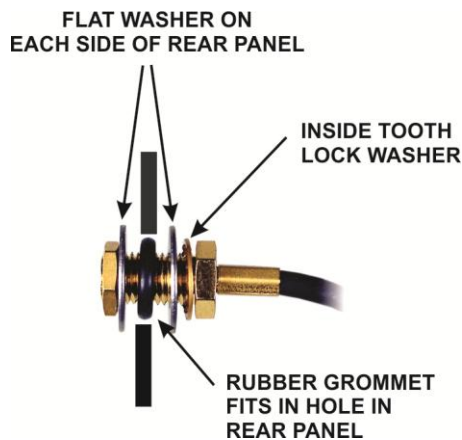
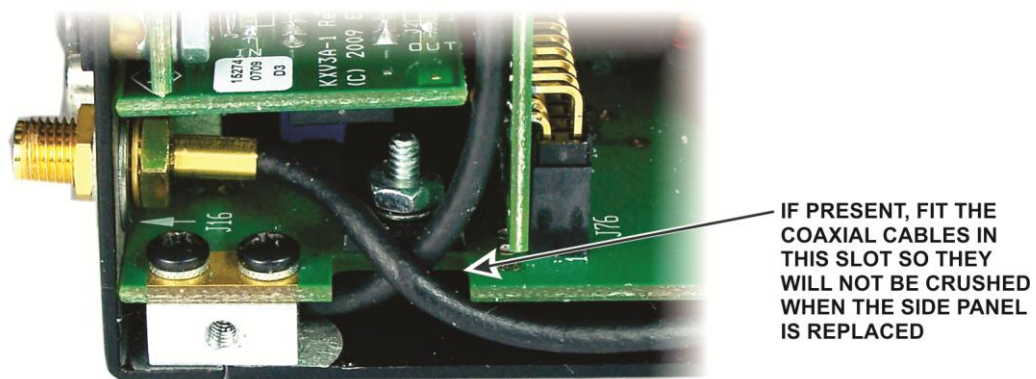

Figure 10. REF Connector Hardware.
Figure 21. Routing the REF and KXV3 Coax Cables.
- If present, remove the rear panel REF connector. Note that the hardware includes several washers and an O-ring (see Figure 10). Keep all the hardware with the connector.
If present, replace the SMA connector in the rear panel REF. hole (Figure 10, pg 6). Be sure the cable is routed through the notch in the circuit board as shown to avoid it being crushed by the side panel (Figure 21).